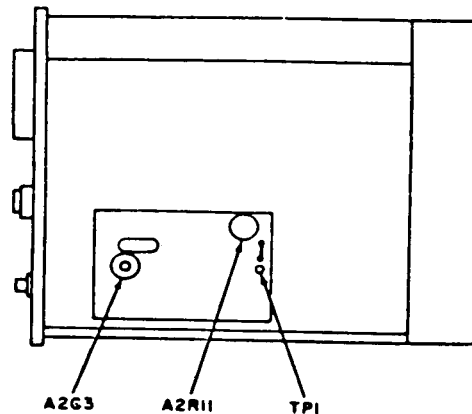

Figure 2. Test instrument - right side view.
- (1) Set **CRYSTAL CALIBRATOR** switch to **1 MC**.
- (2) Connect frequency counter to **TP1** (fig. 2) and chassis ground. If frequency counter does not indicate between 999.9 and 1000.1 kHz, perform **b** (1) below.
- (3) Vary autotransformer output between 105 and 125 and back to 115 V ac. Frequency counter indication will remain within limits specified in (2) above.
- (4) Set **CRYSTAL CALIBRATOR** switch to **100KC**. If frequency counter does not indicate between 99.990 and 100.01 kHz, perform **b** (2) below.
- (1) Adjust **A2C3** (fig. 2) for a 1 MHz indication on frequency counter (R).
- (2) Adjust **A2R11** (fig. 2) for a 100 kHz indication on frequency counter (R).